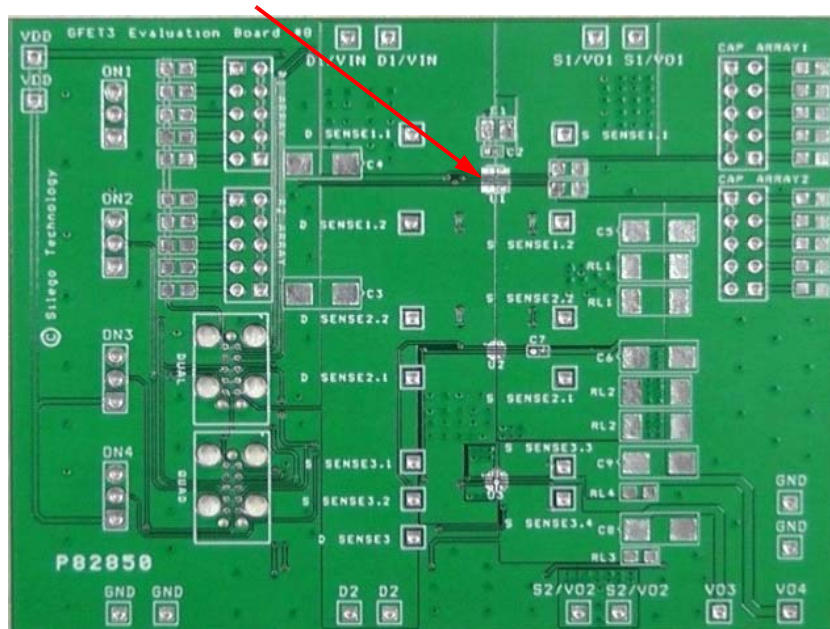

Figure 1. SLG59M1527V Evaluation Board
2. Since the D1, D2, S1 and S2 pins dissipate most of the heat generated during high-load current operation, it is highly recommended to make power traces as short, direct, and wide as possible. A good practice is to make power traces with an absolute minimum widths of 15 mils (0.381 mm) per Ampere. A representative layout, shown in Figure 1, illustrates proper techniques for heat to transfer as efficiently as possible out of the device;
A GFET3 Evaluation Board for SLG59M1527V is designed according to the statements above and is illustrated on Figure 1. Please note that evaluation board has D_Sense and S_Sense pads. They cannot carry high currents and dedicated only for $R_{DS(on)}$ evaluation.